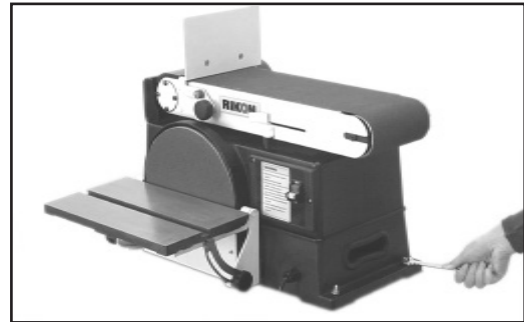

Fig. 01
2. Place a pencil through the mounting holes of the sander base (42) and mark the hole locations on workbench.
4. Align the sander base over the holes and secure using four 5/16 inch screws (or larger) and hex nuts. (See Fig. 01)